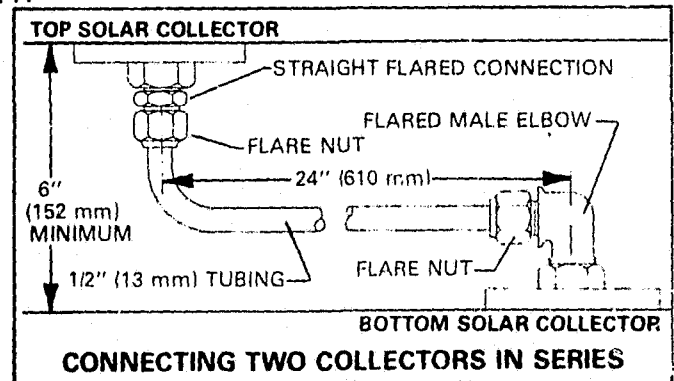

FIGURE 15
- a - Figure 15 illustrates two solar collectors piped in series. Install a flare male elbow at the bottom collector and a flare male straight connection at the top collector.